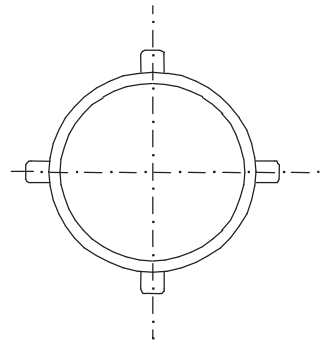

Fig. 4
- 9.3. Check whether the capsule fits into the intended connection interface: Labelling = IST. Ensure that it is actually a coax-connection (single pipe connector) and a measuring insert with 4 tappets (see Fig. 4).